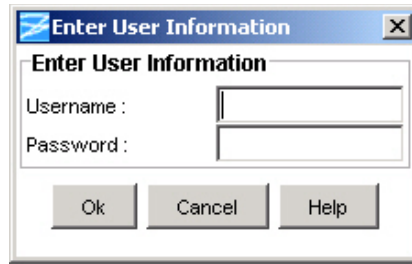

Figure H-14. Enter User Information Dialog Box
18. Some versions of SynCraft may display an Enter User Information dialog box, as shown in Figure H-14. Enter a valid Level 4 username and password. Contact the System Administrator for the SSU-2000 if you do not know a valid Level 4 username and password. Click OK. The download process starts.